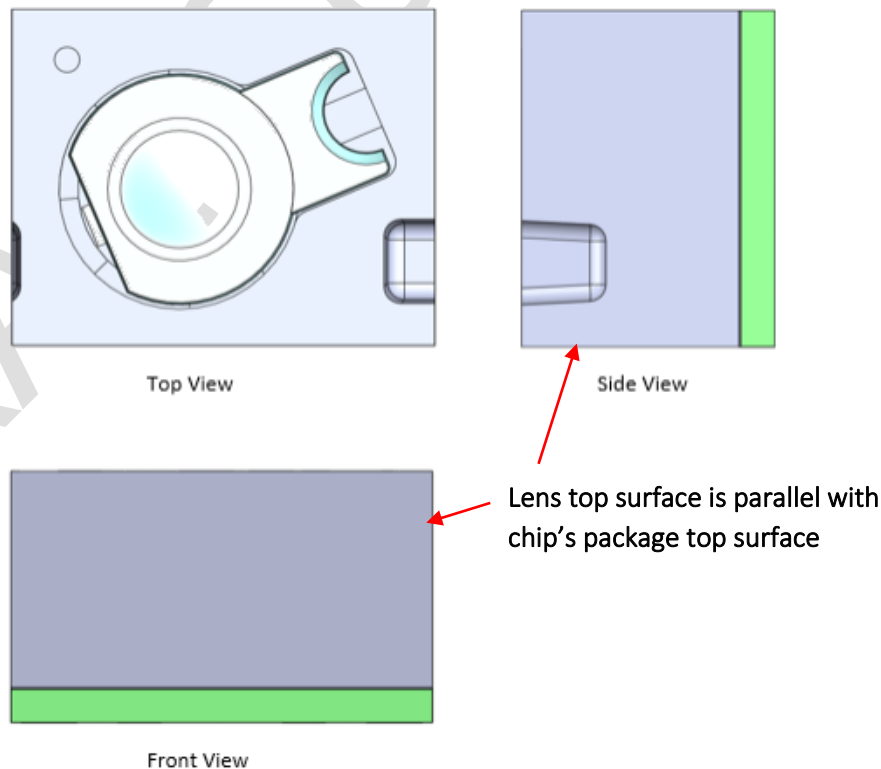

Figure 13. Side and Front View to Verify Planarity of the Lens Set
5. Recommends to verify the lens set placement is horizontally flat against chip package top surface. Refer to Figure 13 for details.